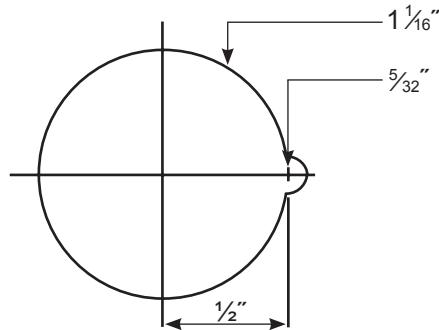

Figure 4 - Hole Sizes
- 4** Use a  $\frac{5}{32}$ " drill bit and drill out the notch (Figure 4).